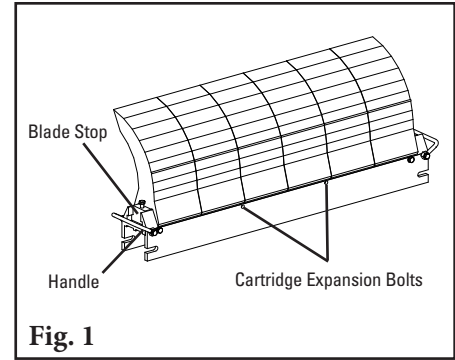

Fig. 1
1. **Remove the tension.** Loosen the adjusting nuts on both sides and turn them out until they are flush with ends of the pivot arm (Fig. 1) or release pressure from PAT control unit. This releases the tension of the blade on the belt.